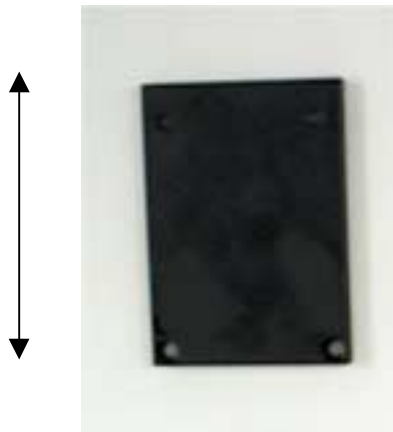

Figure 4.
7. Attach the new Z-axis adapter plate to the Z-motor. The new adapter plate is a little longer than the original. (See Figure 4).